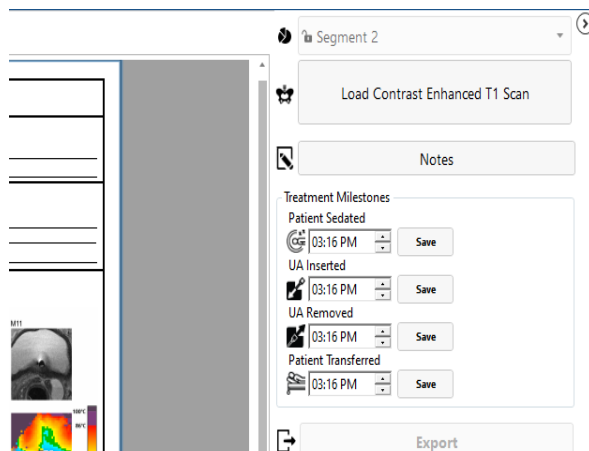

Figure 59: Treatment Milestones panel in Reports workspace
**MRI Technologist:** Use the Treatment Milestones panel in the *Reports* workspace (*Figure 59*) to record:
- The time when the Urologist removed the ultrasound applicator (UA), and